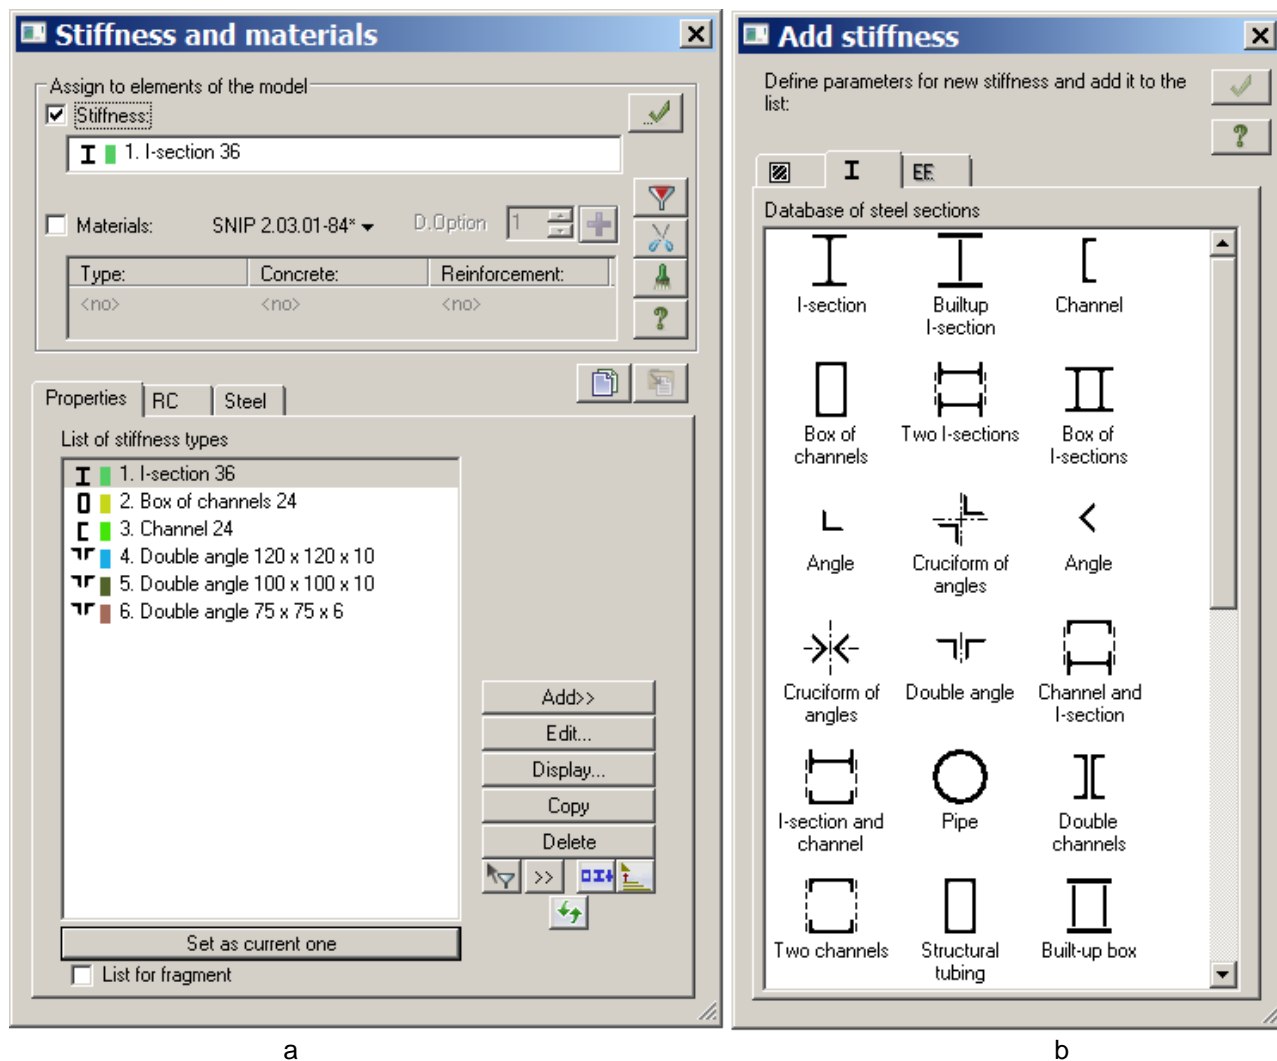

Figure 3.9 Dialog boxes: a – **Stiffness and materials**, b – **Add stiffness**
- ⇒ In the **Add stiffness** dialog box (see Fig.3.9), on the **Database of steel sections** (the second tab), double-click the **Box of channels** icon in the list.